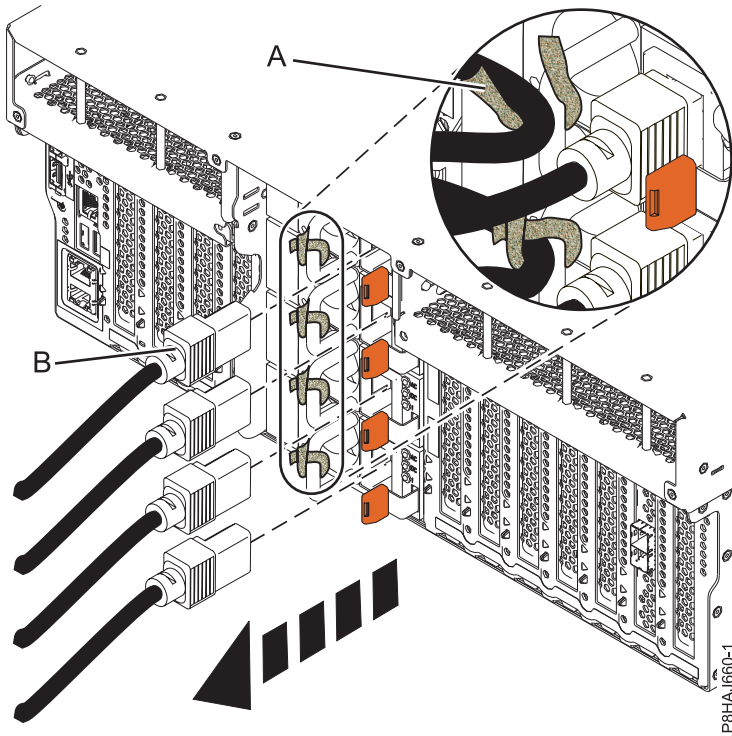
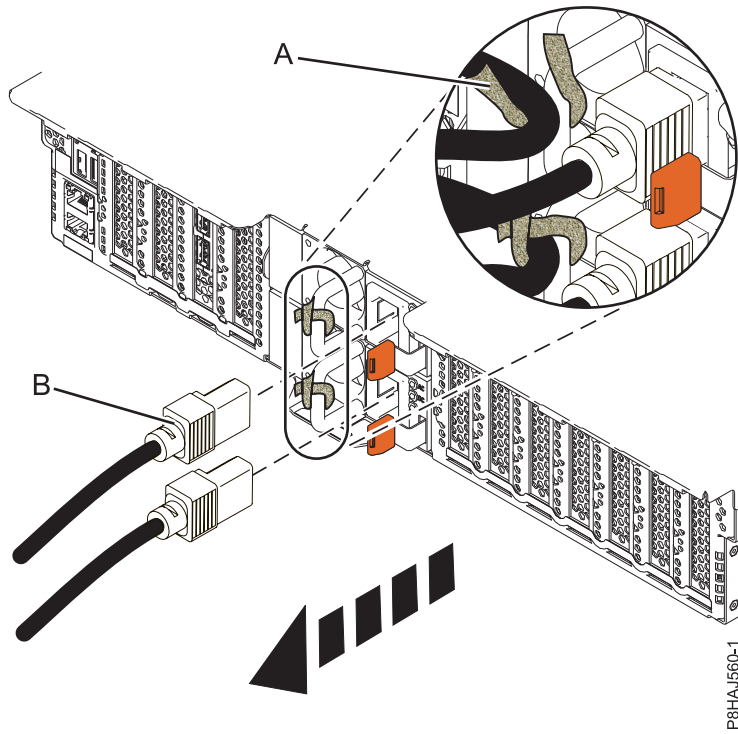
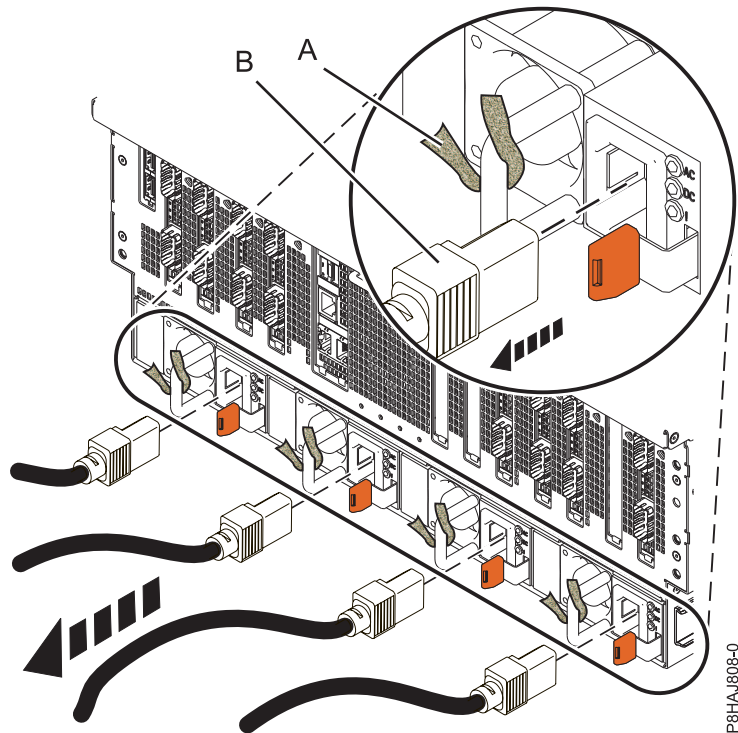

Figure 77. Removing the power cords from an 8247-42L, 8286-41A, or 8286-42A system
Figure 78. Removing the power cords from an 5148-21L, 5148-22L, 8247-21L, 8247-22L, 8284-21A, or 8284-22A system
Figure 79. Removing the power cords from an 8408-44E or 8408-E8E system
3. Disconnect the power cords (**B**) from the system unit. See Figure 77 on page 98, Figure 78 on page 99, or Figure 79 on page 99 or depending on the type of your system.